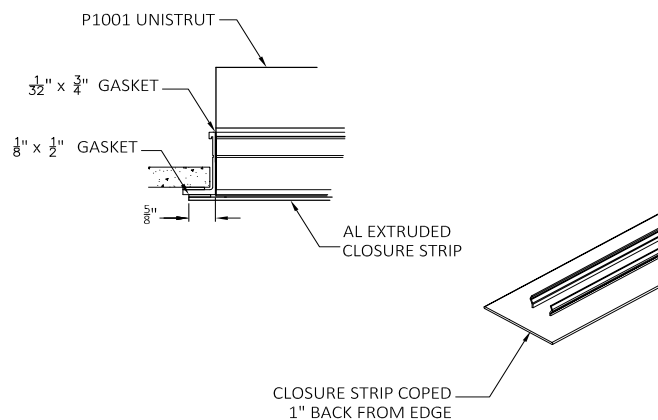

Figure 26. Coped Closure Strip and Side View of Assembly
Step 23: Cut closure strips to required lengths. Where Unistrut ends, it is recommended to increase the length of the closure strip by 5/8 in. and cope 1 in. of the vertical pieces so that it butts up flush to Price half-tee. Refer to **Figure 26** for further detail.